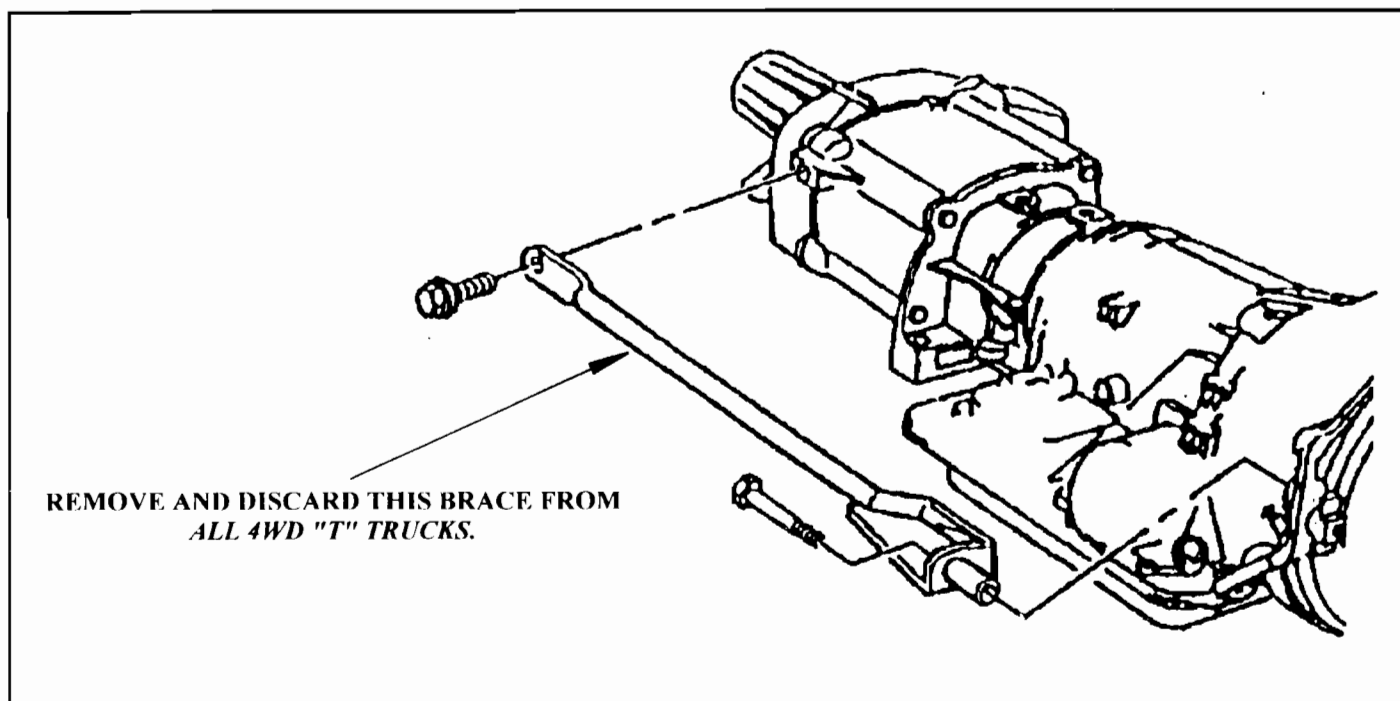

Figure 13
**STEP 3:** *If you have a "T" Truck*, which is the small "S" type truck with 4 wheel drive, **remove and discard the brace from transmission bell to the transfer case**, as shown in Figure 13. This will require a shorter bolt at the bell housing.